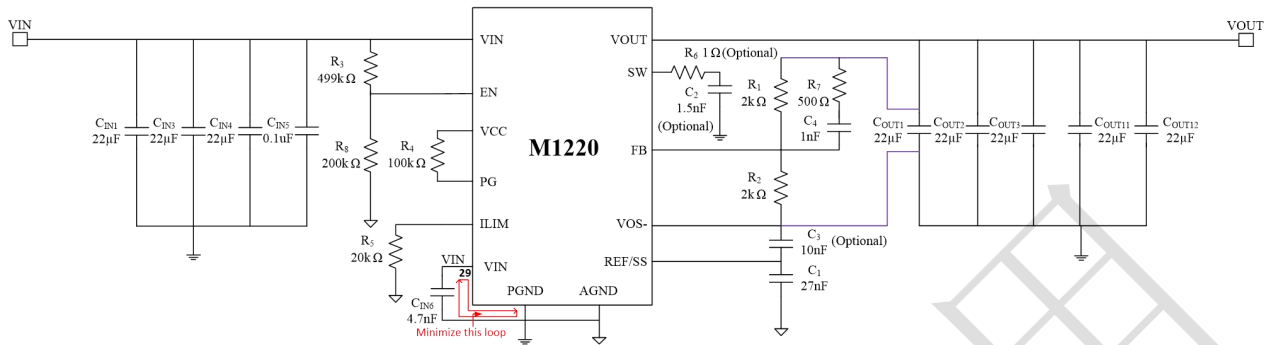

Figure 2. Typical Application Circuits of M1220 for 12V Input 1.2V@20A Output, Fsw=600kHz
- The EN is programmed by the external resistors R_{PULL_UP} and R_{PULL_DOWN} as the typical application circuit on figure 2. The V_{EN} is calculated:
CIN is the sum of the input capacitors, COUT is the sum of the output capacitors, please refer to Figure 2 for parameters of other components.